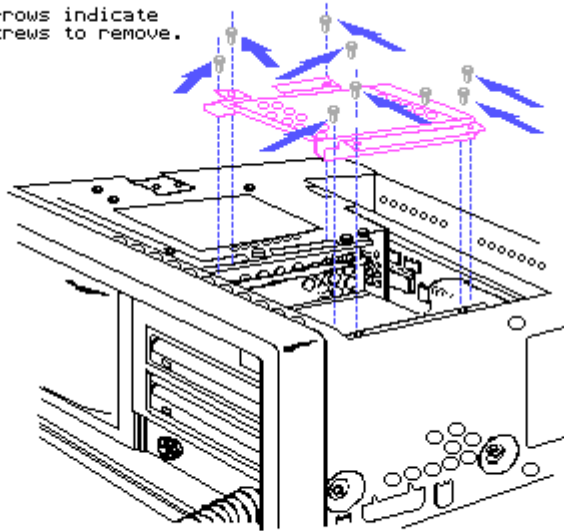

Figure 7-27. Removing the Mass Storage Device Access Plate
2. Using a Torx screwdriver, remove the eight mounting screws that secure the mass storage device access plate to the system chassis and the mass storage device enclosure (Figure 7-27).